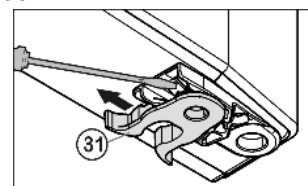

Fig. 7
- Transfer the spring clamp Fig. 7 (31): Depress the latch nose and pull the spring clamp off over it.